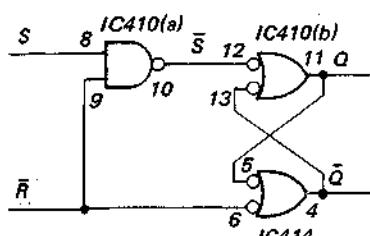

Fig. 2-10
- Fig. 2-10 shows a Set-reset type of FF basically constituted by IC410(b) and IC414 (both set and reset are zero priority inputs) with the gate IC410(a) added for determining the priority of the inputs.